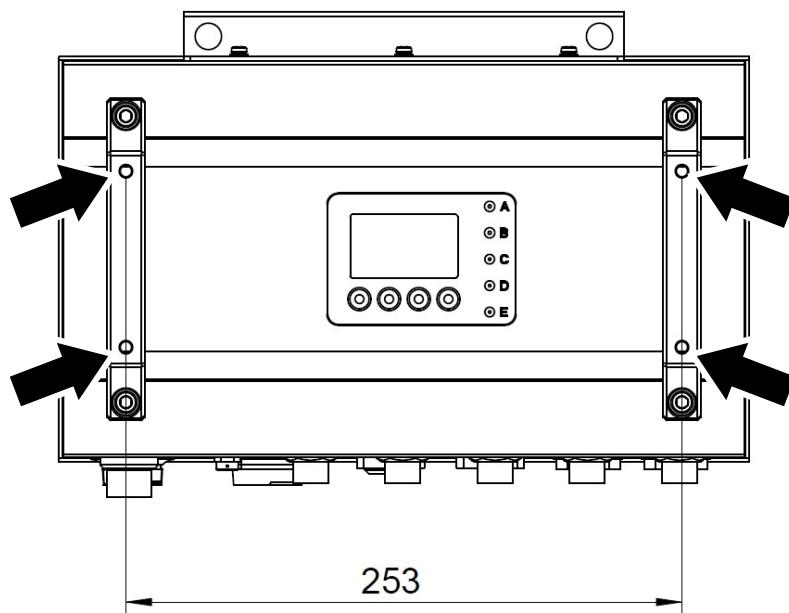

Figure 31. Using PSU handles for mounting
2. See Figure 31 on page 47. Bolt mounting hardware to the M6 threaded holes (arrowed) in the PSU's handles using high-tensile M6 bolts. The bolts must thread fully into the handles but they must not touch the PSU's housing.